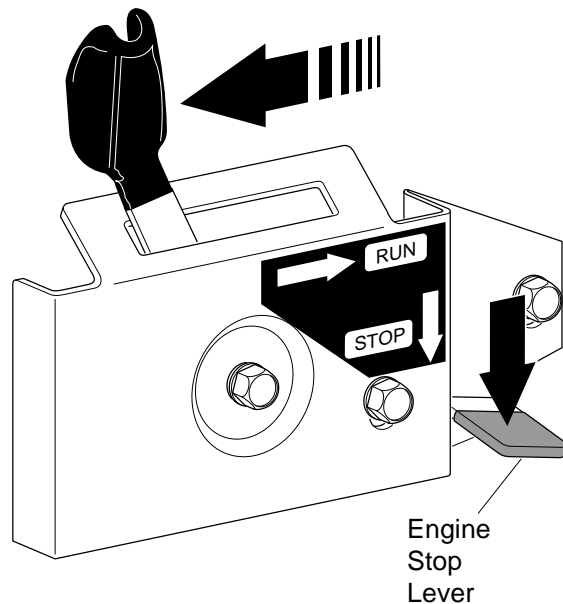

Figure 21 - Pushing Down Engine Stop Lever
3. Push down engine stop lever (see Figure 21). This releases engine run lever and stops engine. Do not stop engine with the decompression lever.